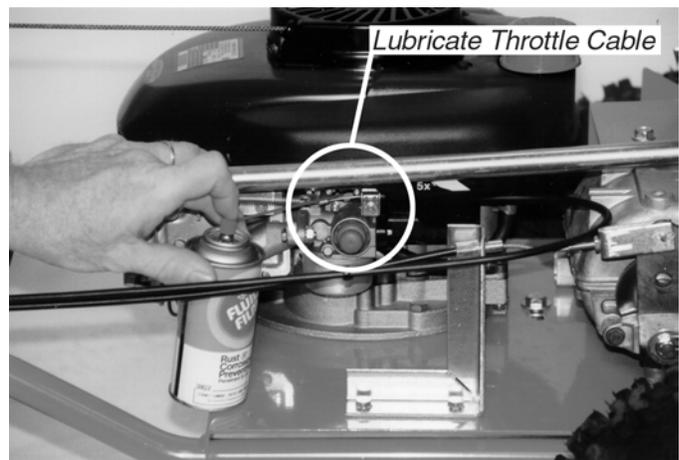

Figure 26
5. Lubricate the throttle cable with FLUID FILM™ or similar lubricant (*Figure 26*). The throttle cable is located on the right side of the machine, just above the primer bulb.